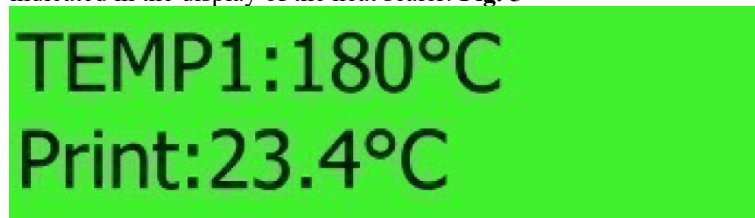

Figure 5
17. Next, set the temperature simulation device at 180°C and check the temperature indicated in the display of the heat sealer. **Fig. 5**